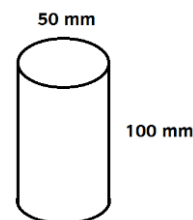

Figure 1
- b) Using the formula identified in a), calculate - in cubic centimetres - the capacity of the engine cylinder shown in Figure 1. Show all workings in your answer.